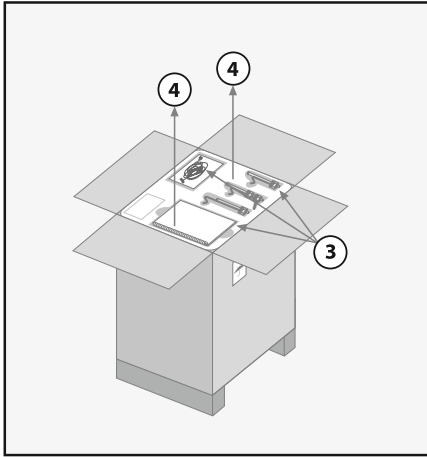

Figure 1.9: Remove the parts and the protective foam.
3. Open the carton and remove the parts (power cord, bag hangers) from the protective foam (see Figure 1.9).